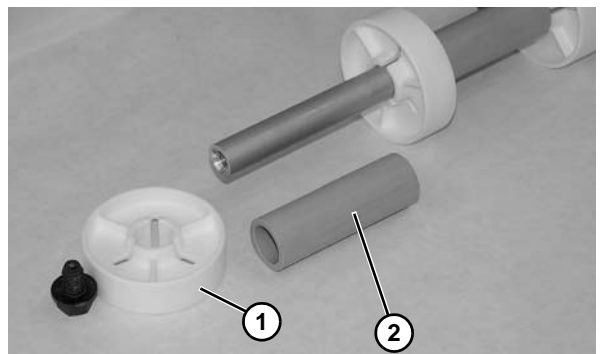

Figure 86
8. Remove idler pucks (Figure 86, item 1) and tube spacers (Figure 86, item 2), as needed, from each side of assembly.